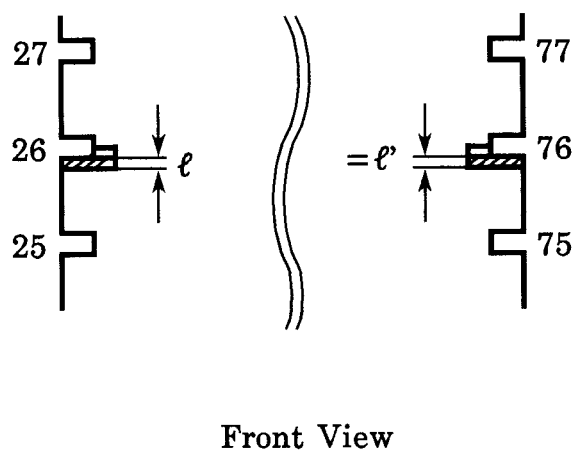

Fig 13. Tray surit ass'y View
- 5) Confirm that the elevator is not slant : ℓ is equals to ℓ' in Fig .13.
- 6) Loose the screws ② and ③ .
- 7) Adjust the screw ① so that the elevator becomes horizontal .
- 8) Fix the screws ② and ③ .